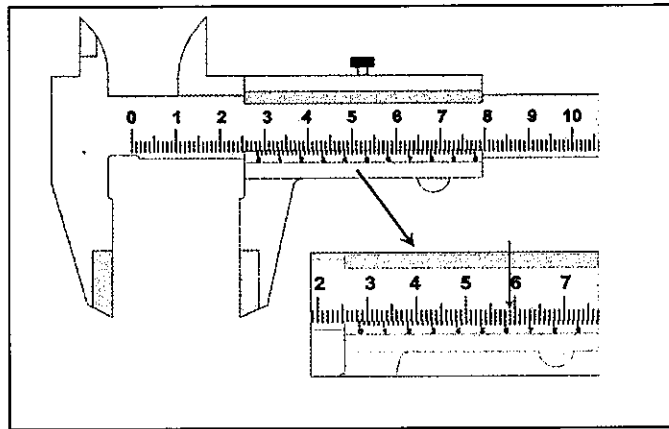

Figure 1b(i) / Rajah 1b(i)
- b) Based on vernier caliper and micrometer in **Figures 1b(i)** and **Figure 1b(ii)**, express in detail the correct reading.